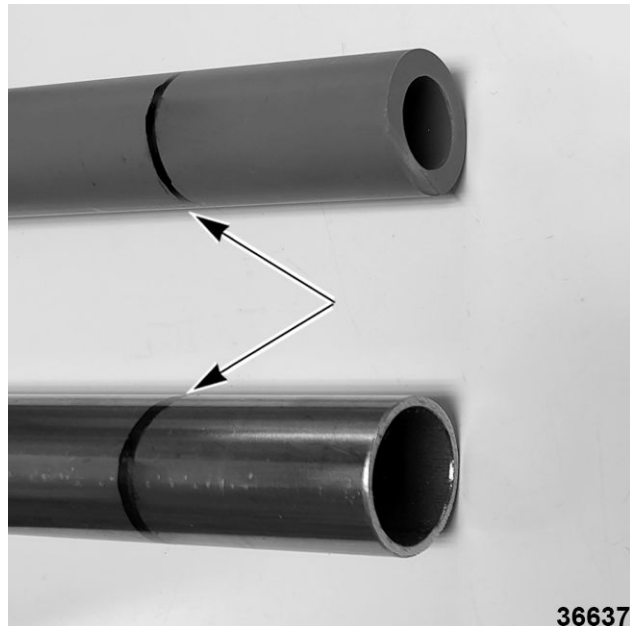

**Fig. 91**
**Push-to-Connect Components and Mechanism (Fig. 91)**